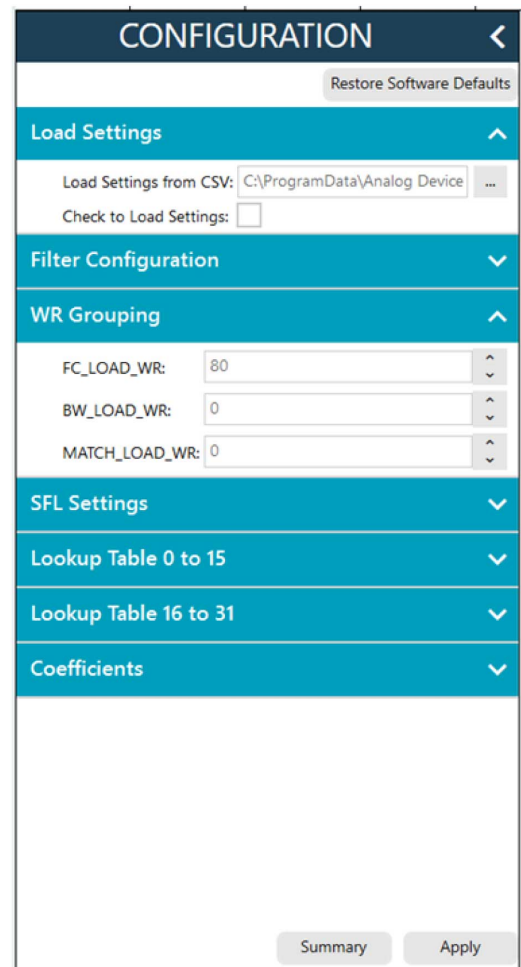

Figure 11. ADMV8513 CONFIGURATION Section
7. Use the **CONFIGURATION** section (see Figure 11) in the ACE software to initialize the chip. By default, the **ADMV8513\_Coefficients\_Bandwidth\_Nominal.csv** file is loaded into this section. Click **Apply** to send the default settings to the chip and to allow the main diagram user controls to become editable.
3. Click the ... button next to **Load Settings from CSV** to select which .csv file to load (see Figure 11).